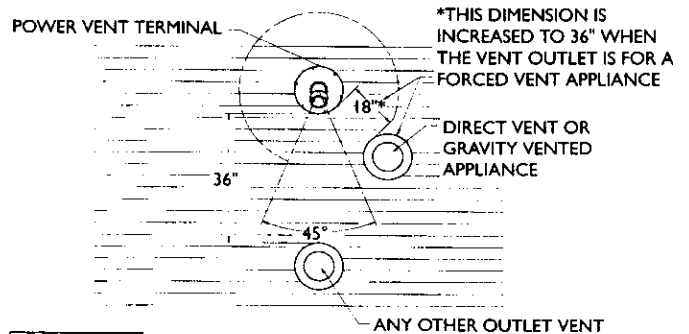

Figure 3c
- 18" minimum from other gravity or natural appliance outlet vents when directly above or 135° to either side of center line. Figure 3c.
- 36" minimum from any outlet vents when directly below or 45° to either side of center line. Figure 3c.
- 36" minimum in all directions from any other forced air appliance outlet vent. Figure 3c.